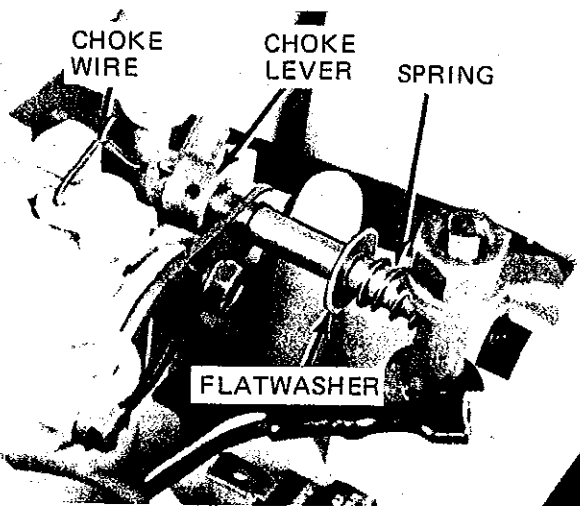

Figure 27
- (1) Install a new gasket and top adaptor plate on the engine and secure with four 12-point screws and two slotted head screws.
- (2) Install a new gasket on the lower adaptor plate.
- (3) Place the gear selector in "F" position and lower the engine onto the mounting studs while guiding the lockout rod into the flywheel housing.
- (4) Rotate the propeller or engine crankshaft to make sure the crankshaft splines and drive shaft splines are properly engaged.
- (5) Secure the engine to the column with four flange nuts and two hex head screws.
- (6) Connect the fuel line to the carburetor.
- (7) Connect the magneto wires to the stop switch (if used).
- (8) Attach the choke wire to the carburetor choke arm and the choke lever.
- (9) Insert the choke rod and knob assembly into the carrier handle and assemble the nyliner, spring, flat washer and choke lever on the rod (Figure 27).